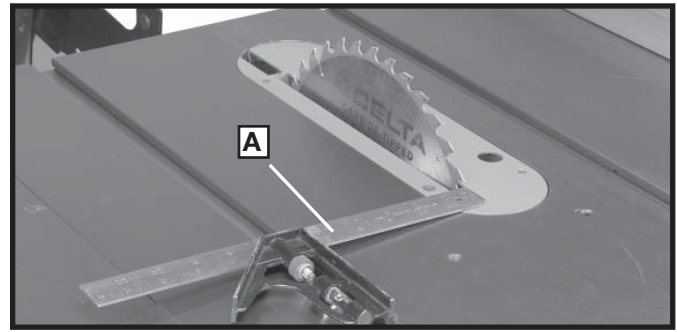

Fig. 66
1. Place a combination square (A) Fig. 66, on the table with one edge of the square in the miter gauge slot, as shown, and adjust the square so the ruler just touches one of the teeth on the saw blade at the forward position, as shown in Fig. 66. Lock the square in this position.